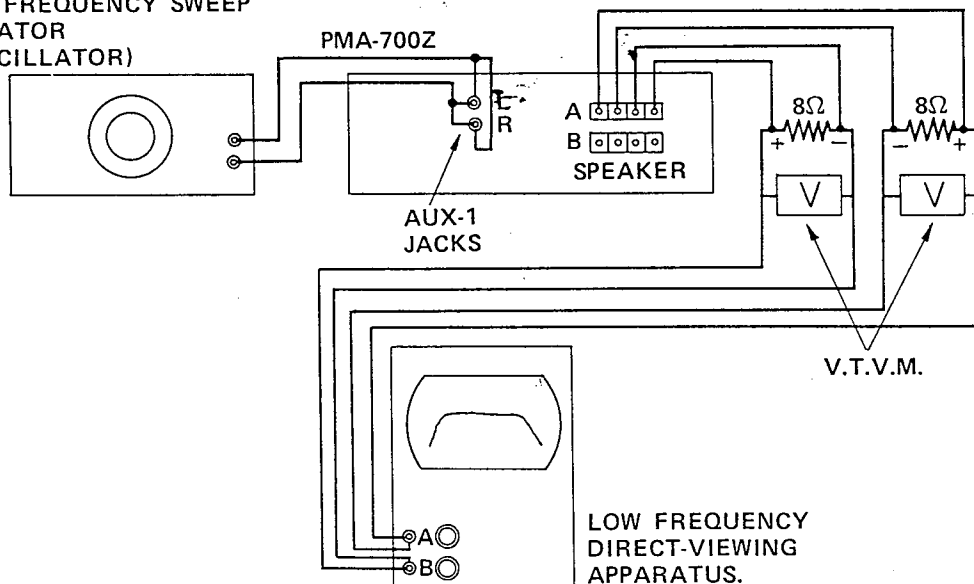

Fig. 22
- Figure 22 shows for testing AUX-1 frequency characteristic.